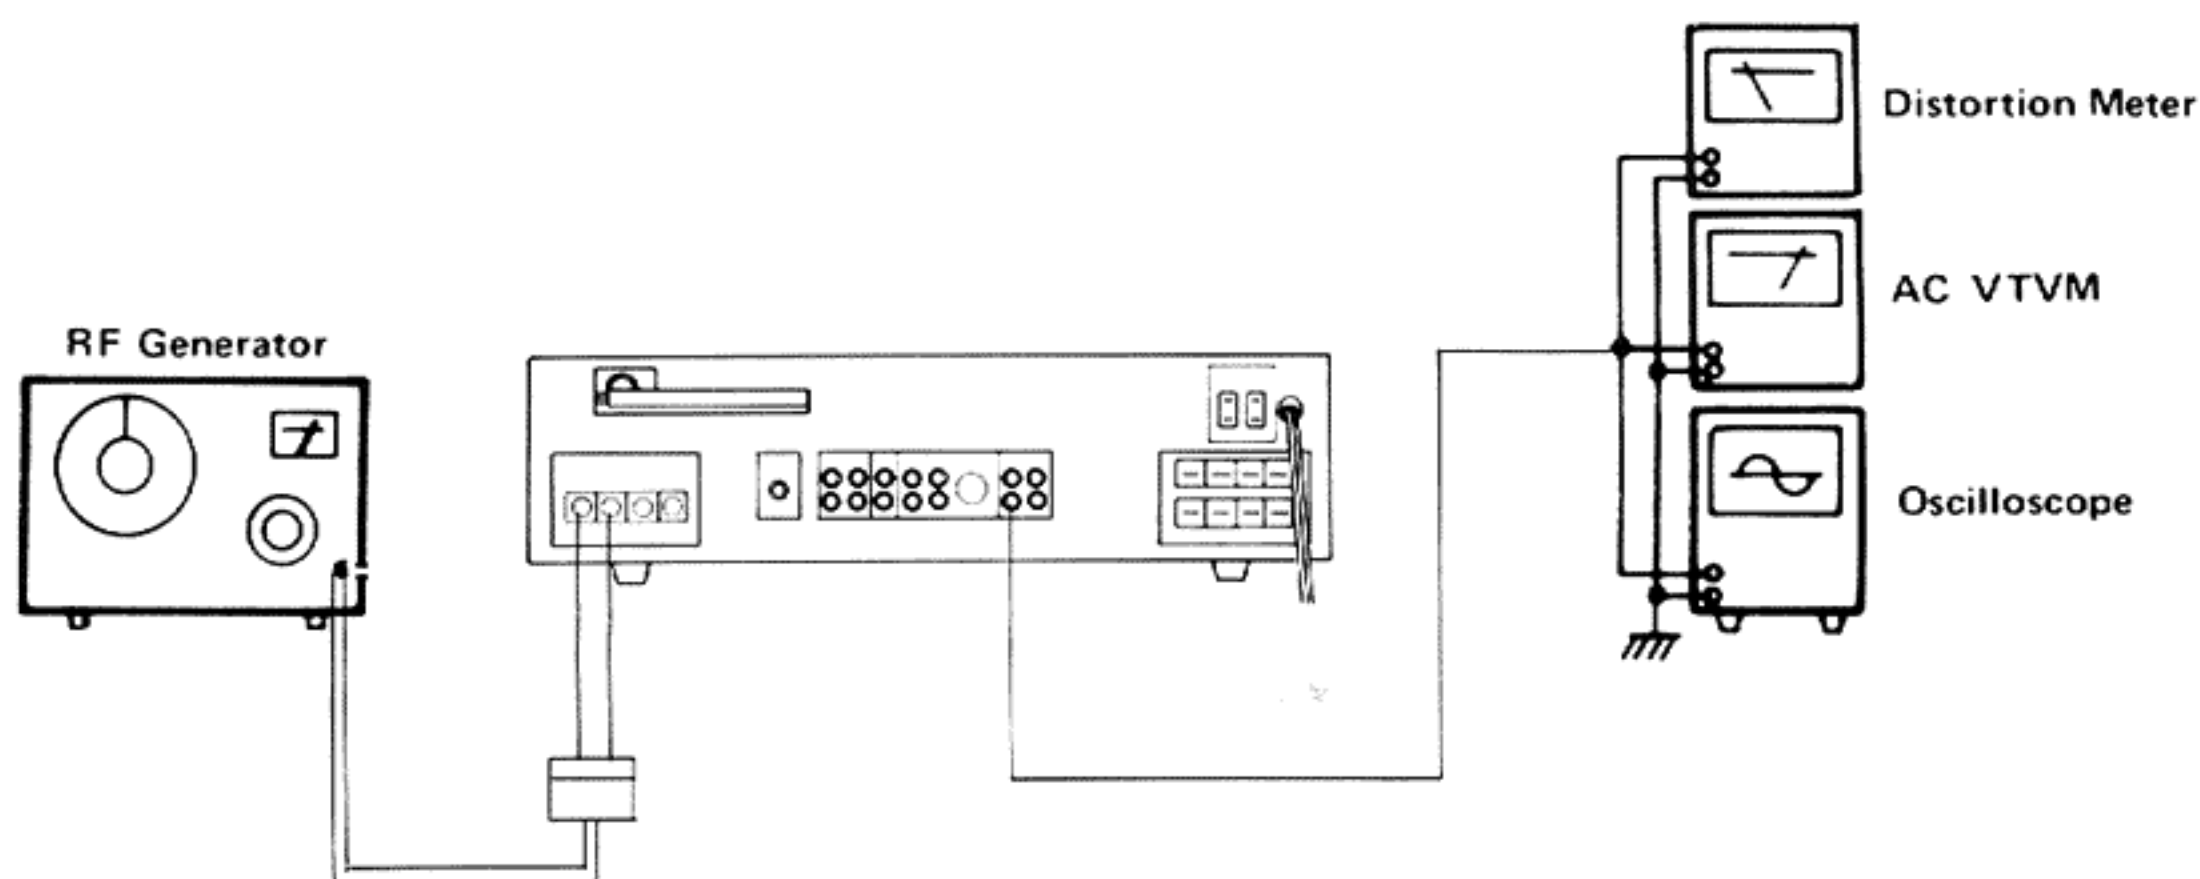

Fig. 18
2. Connect an oscilloscope, distortion meter and VTVM to the Rec. Out on the rear panel. See Fig.18.